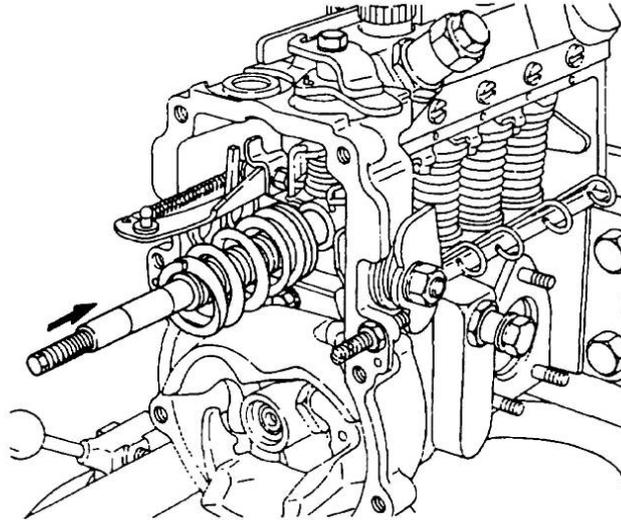

Figure 116 Installation of the Governor Shaft
- t. If removed, install the spring seat and springs onto the governor shaft and insert the governor shaft into the bore in the governor housing (Figure 116).